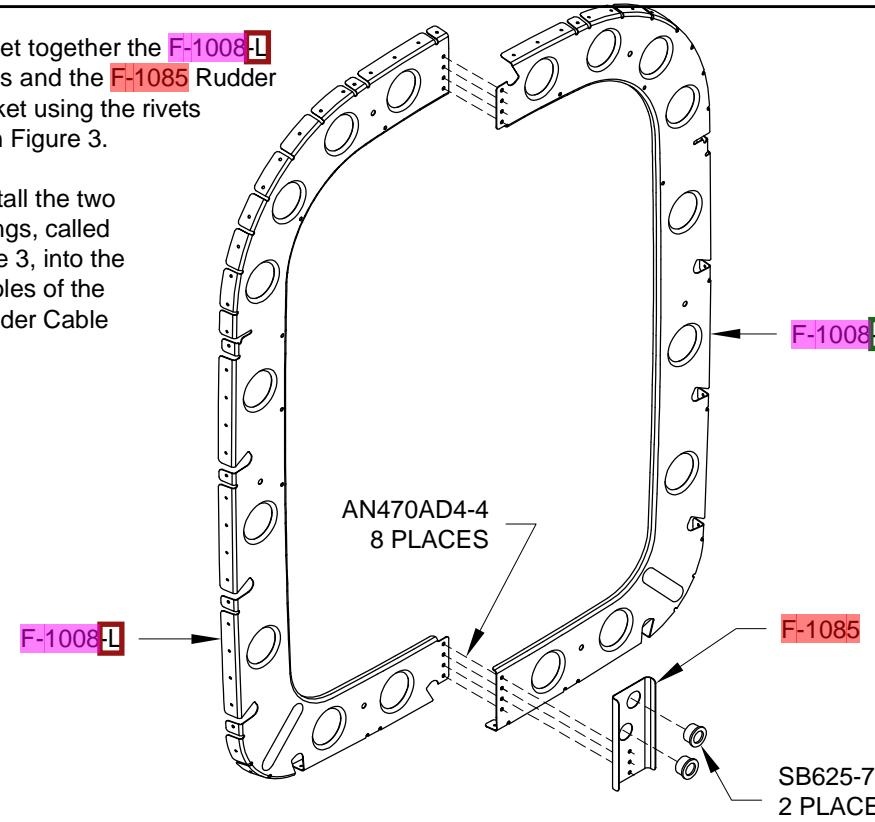

FIGURE 3: RIVETING THE F-1008 FRAMES
Step 3: Rivet together the F-1008-L & R Frames and the F-1085 Rudder Cable Bracket using the rivets called out in Figure 3.
Step 4: Install the two snap bushings, called out in Figure 3, into the indicated holes of the F-1085 Rudder Cable Bracket.